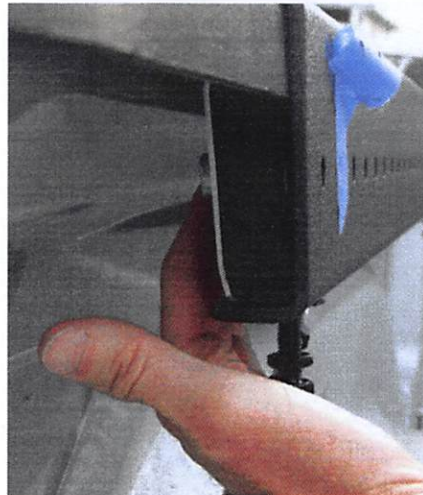

Figure 12: The clamp block and nut plate ready to be secured
Step 14: To secure the bed rails reinstall on the vehicle into the same positions as when you test fit. Now slide the clamp block and nut plate onto the bed rail from behind. Make sure the lip of the clamp block is facing towards the bed rail and is at the bottom of the rail. Figure 12 shows how the clamp block and nut plate will look on the bed rail.